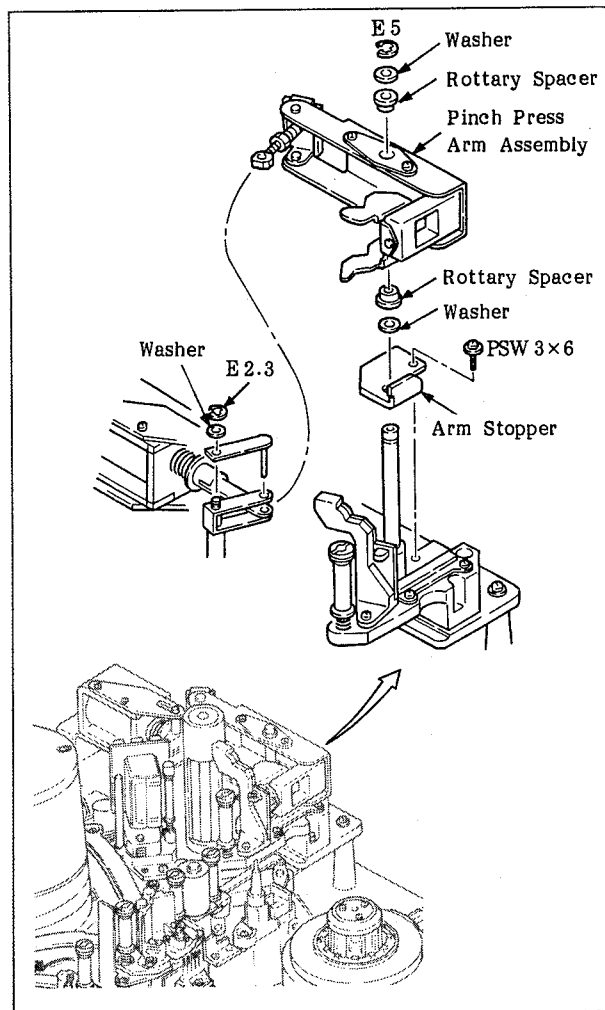

Fig. 6-111 Replacement of the Arm Stopper
1. Remove the arm stopper by referring to Figure 6-111.